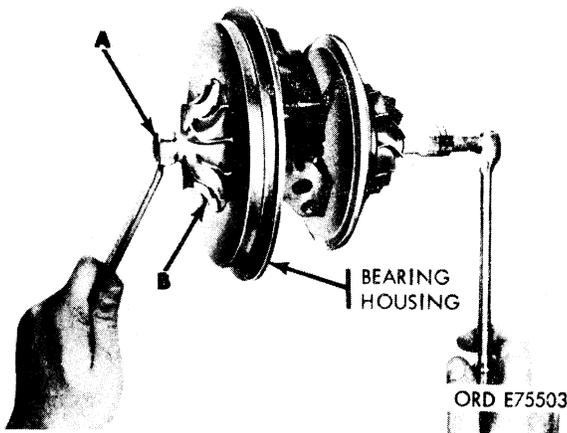

Figure 65. Removing compressor wheel.
*a.* Refer to figure 65. Remove compressor wheel lock nut (A), and remove compressor wheel (B).